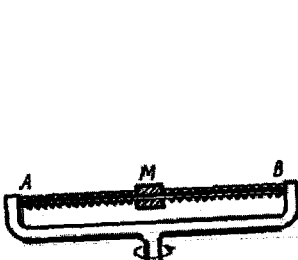

Fig. Q9a
9. a) In the arrangement shown in Fig. Q9a the sleeve M of mass $m = 0.20 \text{ kg}$ is fixed between two identical springs whose combined stiffness is equal to $x = 20 \text{ N/m}$. The sleeve can slide without friction over a horizontal bar AB . The arrangement rotates with a constant angular velocity $\omega = 4.4 \text{ rad/s}$ about a vertical axis passing through the middle of the bar. Find the period of small oscillations of the sleeve. At what values of ω will there be no oscillations of the sleeve?